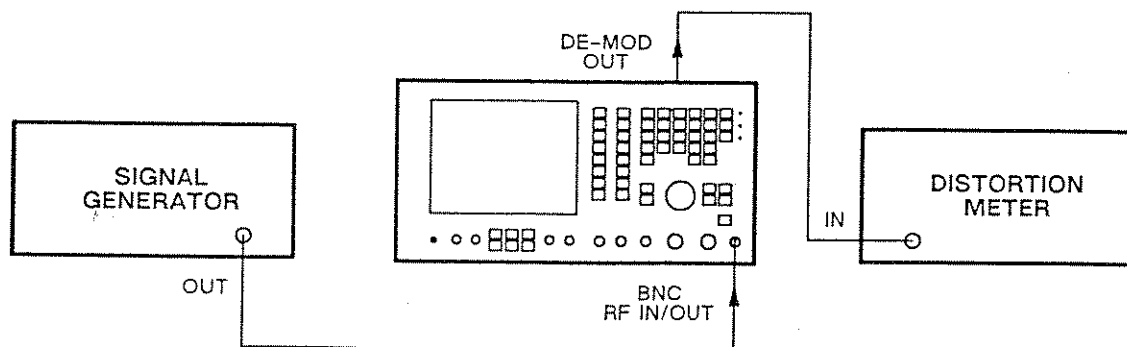

Fig. 6-3 Test equipment connections for modulation meter demodulation distortion
- (1) Connect the signal generator to the RF IN/OUT BNC socket. Connect the distortion meter to the DE-MOD OUT socket. See in Fig. 6-3.
- (2) On the 2955B, set the MODE to TRANSMITTER TEST, MOD to AM, FILTER to 0.3-3.4 kHz BAND PASS and RF IN/OUT socket to BNC.
- (3) Set the signal generator carrier frequency to 100 MHz, level to 0 dBm, 30% AM and 1 kHz internal modulating frequency.
- (4) Tune the distortion meter and check that the reading is <2%.
- (5) Set the signal generator frequency to 12 MHz. Tune the distortion meter and check that the reading is <5%.